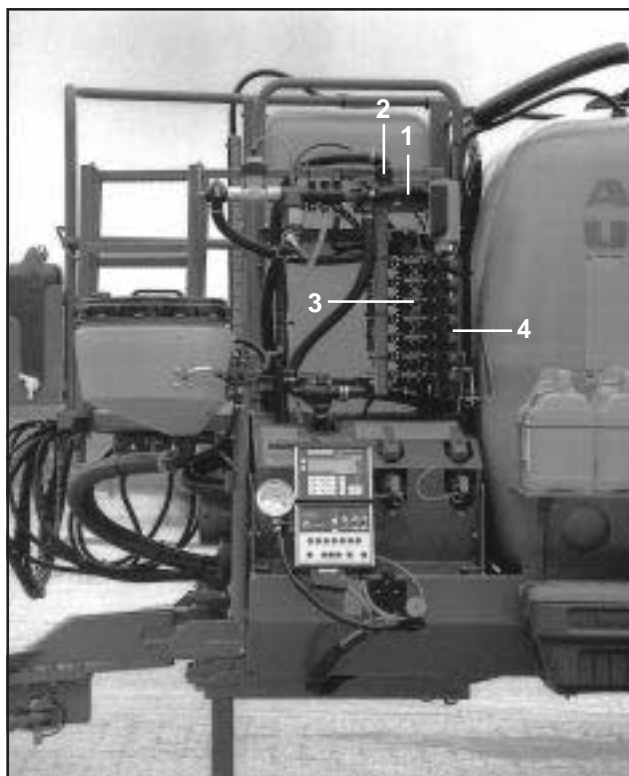
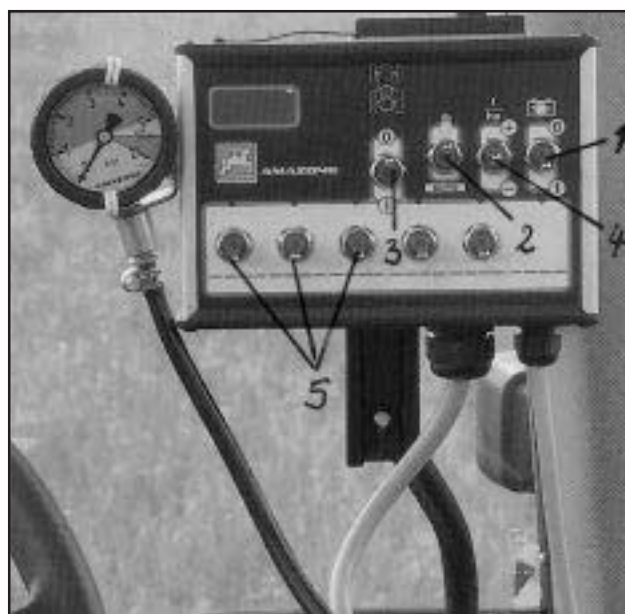

Fig. 6.11
Fig. 6.12
- Set the pressure relief valve. For this the adjustment nut (Fig. 6.11/ 1 or 6.13/ 1) of the automatic metering unit should be turned until a spacing of 10 mm is achieved between the edge of the adjustment nut and the return flow hose joint (Fig. 6.11/ 2 or 6.13/ 2). This way the relief valve has been set to approx. 7 bar.
- Bring on/off-switch (Fig. 6.12/ 1) for the electric power supply of the switch box into position "I". The red control lamp lights up and the switch box is ready for operation.
- Set the programme switch (Fig. 6.12/ 2) into position "manual operation".
- Bring switch (Fig. 6.12/ 3) for the central boom feed on-/off switch into position I. The solenoid valves (Fig. 6.11/ 3) of the equal pressure control chest open and water runs out of the jets. **The agitator remains switched off.**
- Set the spray pressure of 4 bar via the \pm tip switch (Fig. 6.12/ 4). Read off the pre-set spray pressure at the spray pressure display.
- Stop the boom part section feed by switching the boom part section control switch (Fig. 6.12/ 5) which actuates the solenoid valve. Now the spray pressure is changed as can be noticed at the spray pressure display.
- Turn the set screw (Fig. 6.11/ 4) of the equal pressure device belonging to this solenoid valve until the spray pressure of exactly 4 bar is displayed. Thereafter open the boom part section feed again.
- After having set all solenoid valves shut all boom part section feed controls by the switch (Fig. 6.12/ 3). Now the displayed pressure should read exactly 4 bar. If this is not the case repeat the setting procedure.